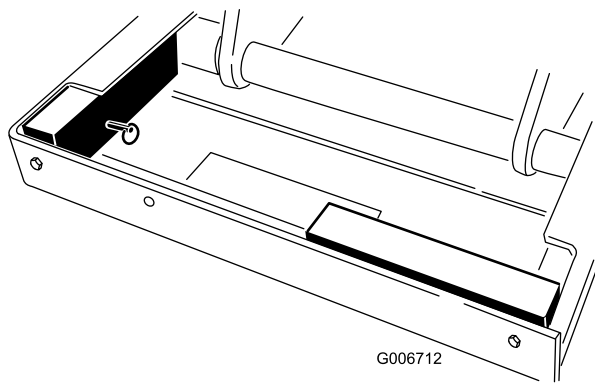

Figure 27
7. Rotate safety blocks 90 degrees in channel and secure to ends of lift frame with retaining pins (Figure 27).